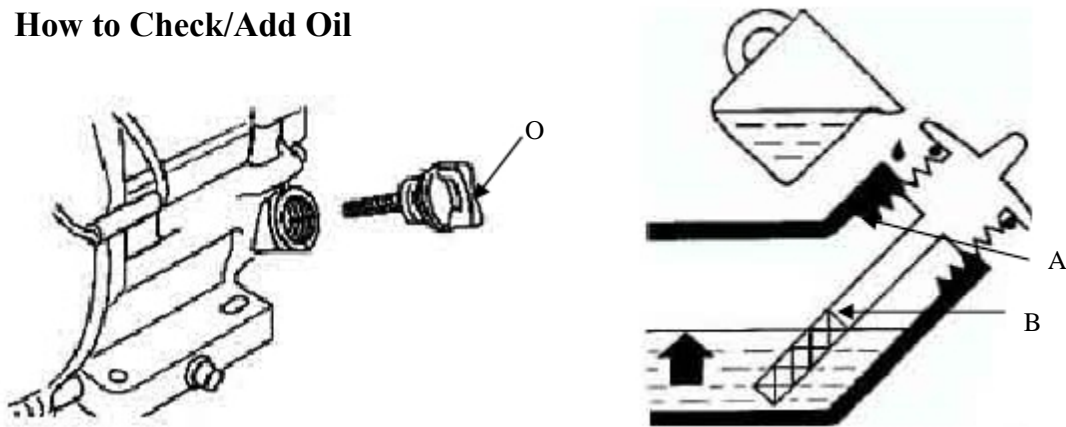

Figure 1
1. Remove the dipstick (O) and swipe with a clean cloth (Figure 1).
3. Remove the dipstick and check the oil level. Make sure the oil is at the FULL mark (B) on the dipstick.
4. To add oil, pour the oil slowly into the engine oil fill (A). Do not overfill. After adding oil, wait one minute and then recheck the oil level.